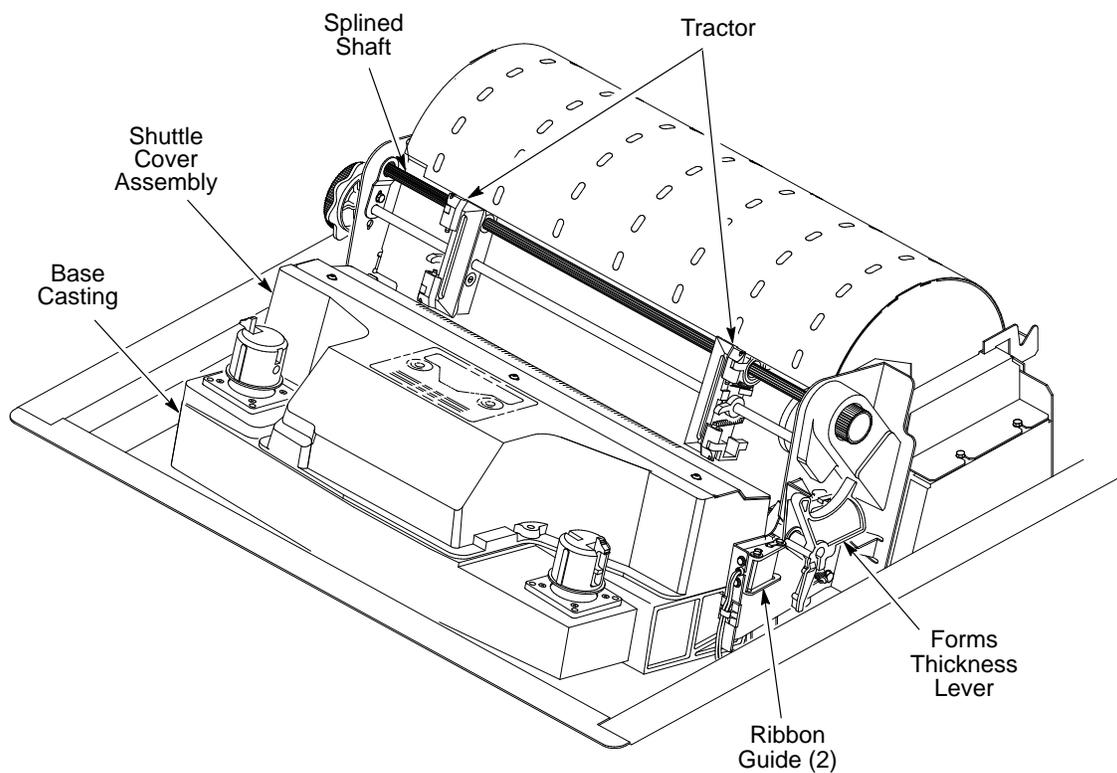

Figure 2-1. Cleaning the Print Mechanism
7. Using a soft-bristled, non-metallic brush (such as a toothbrush), brush paper dust and ribbon lint off the tractors, shuttle cover assembly, base casting, and ribbon guides. Vacuum up the residue. (See Figure 2-1.)